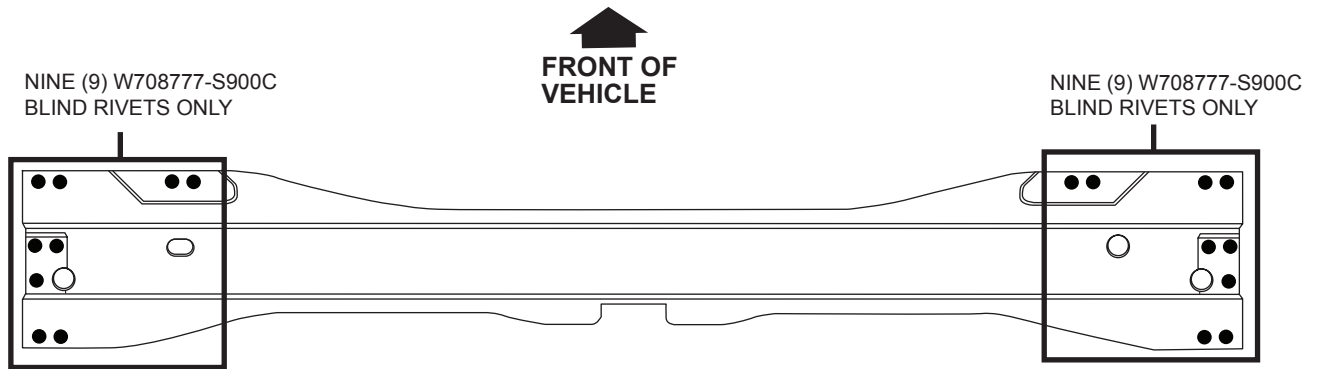

FIGURE 1
- (Refer to Figures 1 and 2) for rivet and adhesive material locations.